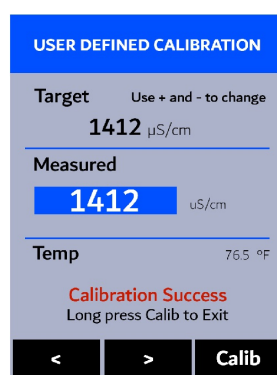

Figure 12.
10. The message “**Calibration Success**” will appear towards the bottom of the display (Figure 12).